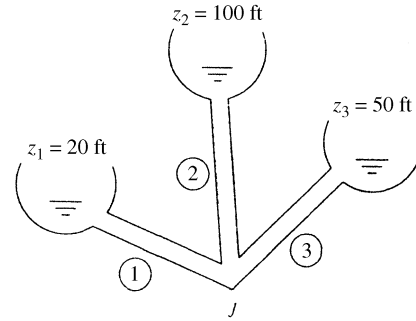

Fig. P6.124
**6.124** The three-reservoir system in Fig. P6.124 delivers water at 20°C. The system data are as follows: